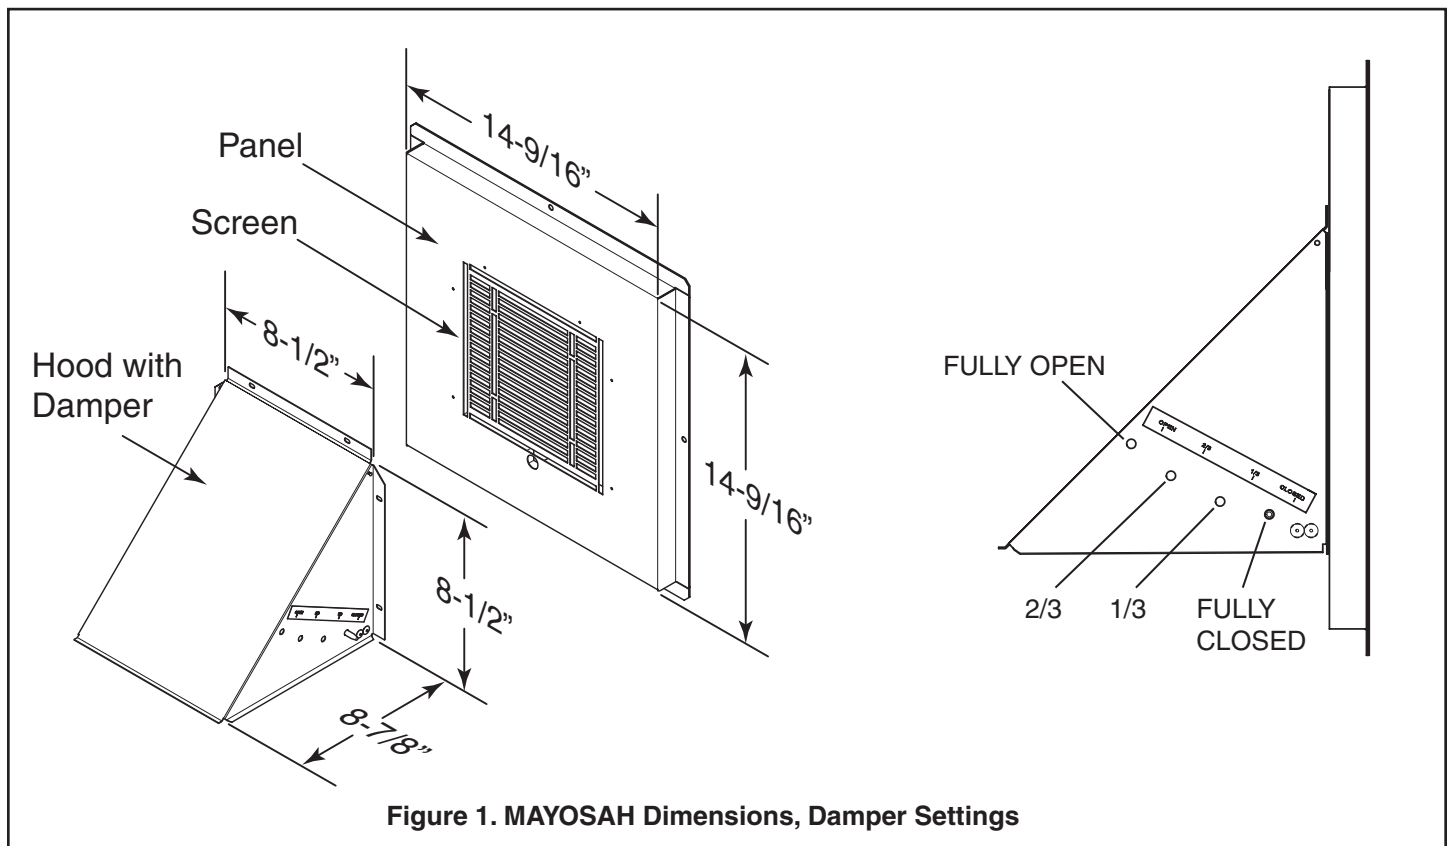

Figure 1. MAYOSAH Dimensions, Damper Settings
7. Set damper position in hood using spring latch to meet outside air requirements. See Figure 1.